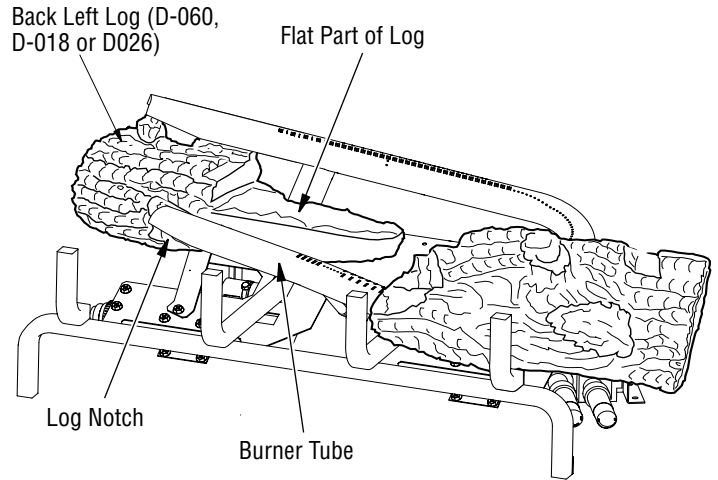
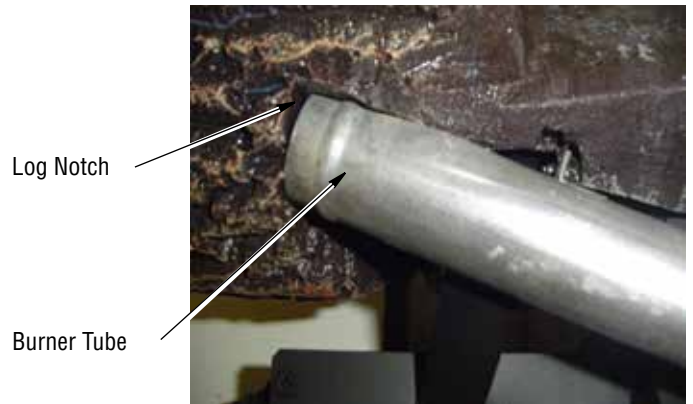
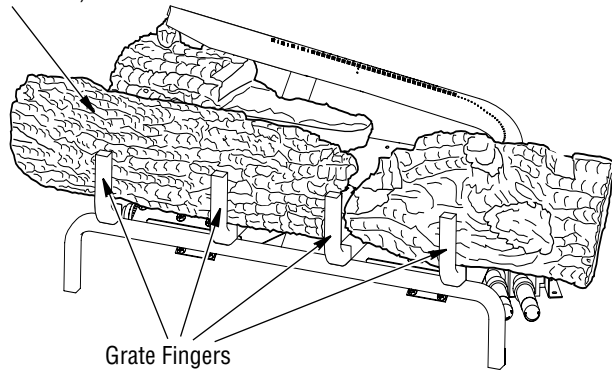

Figure 17 - Installing Back Left Log
Figure 17A - Installing Back Left Log
Figure 17B - Installing Back Left Log (D-018) Rear View
- Find the back left log (SouthernComfort24 and ShadyHollow24 models: D-060, SouthernComfort30 and ShadyHollow30 models: D-018, SouthernComfort36 and ShadyHollow36 models: D-026). See **Figures 17, 17A, and 17B**. **Figure 17A** shows how the log must fit against the end of the burner. **Figure 17B** shows how the notch in log fits against the vertical portion of the burner tube. Place this log on the base assembly by inserting it from the left side as shown in **Figure 17**. You will need to twist the log slightly to get it to fit against the burners properly. It will rest even with the back edge of the pan.